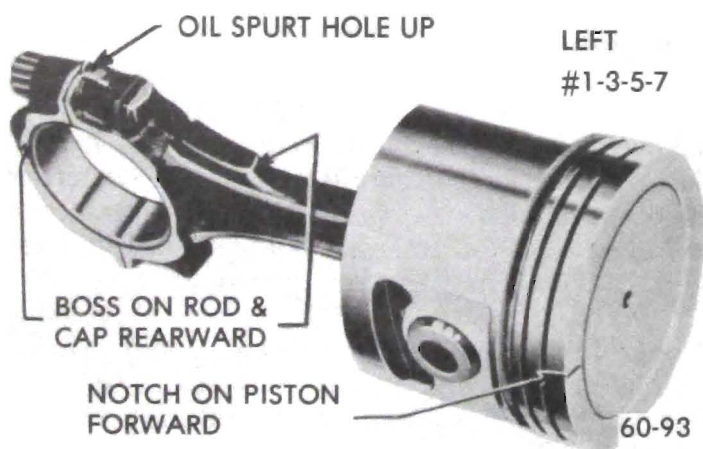

Figure 60-42 - Left Bank Piston and Rod Assembly (455 cu.in. engines)
2. If the piston and rod assembly is to be installed in the *left* bank, the assembly must be made as shown in Figures 60-42 and 60-43.
15. Install all other piston and rod assemblies in same manner. When piston and rod assemblies are properly installed, the oil spurt holes in the connecting rods will be "up" toward the camshaft, the rib on the edge of the rod cap will be on the same side as the conical boss on the connecting rod web, and these marks, (rib and boss) will be toward the other connecting rod on the same crankpin. See Figure 60-42 and 60-44.